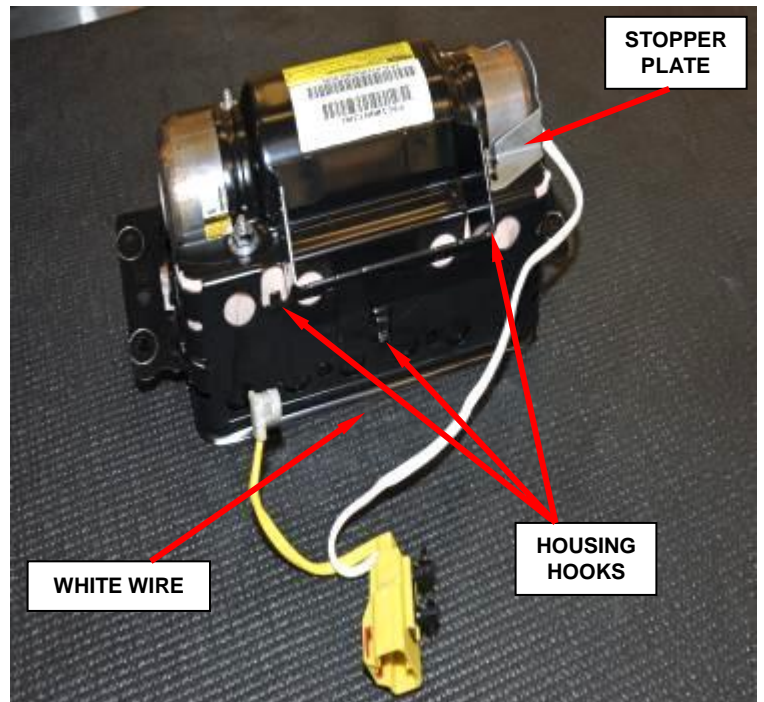

Figure 51 – White Wire Harness
- d. Release the white wire from the three housing hooks (Figure 51).
- f. Remove and save stopper plate from housing (Figures 51 and 52).